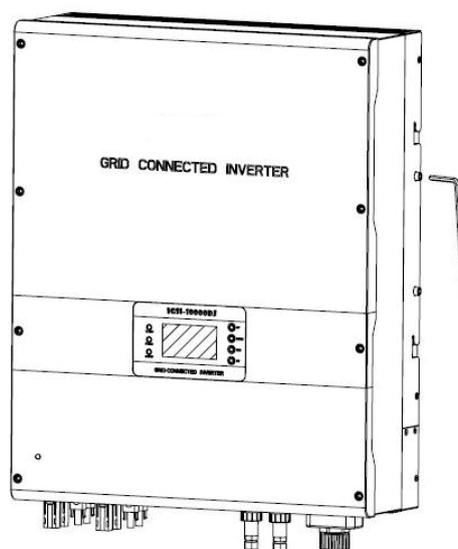

Fig.6 Fix safety-lock screws
Step3: Fix safety-lock screws at left side and right side as illustrated in Fig.6 with the attached socket head wrench.
NOTE: Ensure that the IGSI-xxxxDL/3 inverter is not exposed to direct sun radiation or other external heat sources, including heat from units below it (see fig.6). At times, the heat generated by the inverters installed at the bottom rows could increase the ambient temperature and this may be detrimental to the inverters located in the top rows. At temperature above 50°C, output power of the top row units could be derated. Derating is more significant in case of high output power and high ambient temperature. For proper cooling, do make sure to allow unobstructed air flow at installed location (for instance, never with the front panel facing a solid surface).
- C. DC Switch and AC Switch: “DC switch” is located between PV Panels and solar inverter while “AC Switch” located is between AC Grid (Utility) and solar Inverter. They are simplified in this diagram. Usually, they may consist of electrical breaker, fuse and/or connecting terminals. To comply with local safety standards and codes, the connection system should be designed and implemented by a qualified technician. The solar inverter also has an option of an integrated DC switch demonstrated in dashed border in Fig.6. –S suffix indicates the inverter is integrated a DC switch in PV input side.